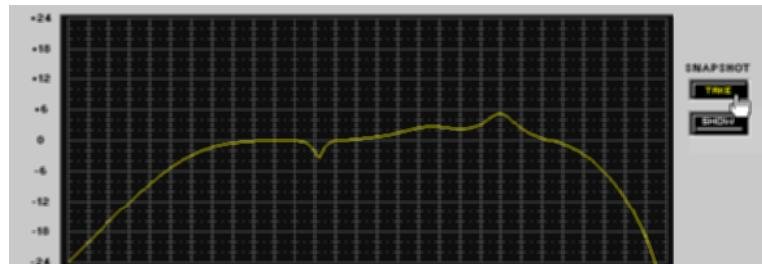

Figure 24 – Taking a Snapshot
1. Click the [TAKE] button, as shown in figure 24.